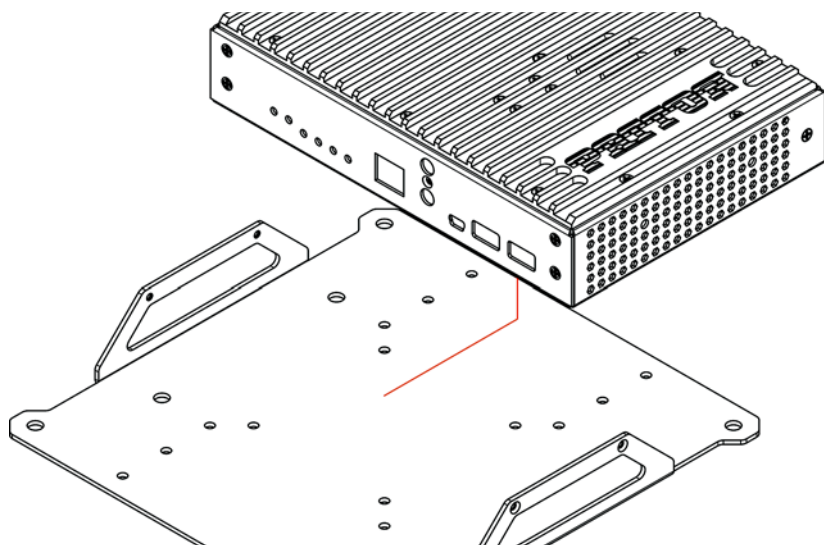

Figure 3. Placing the device on the VESA mounting bracket
3. Place the FPX6000 in the bracket (see **figure 3**).
3. Place the FPX6000 in the bracket as shown in **figure 3** on page 6.